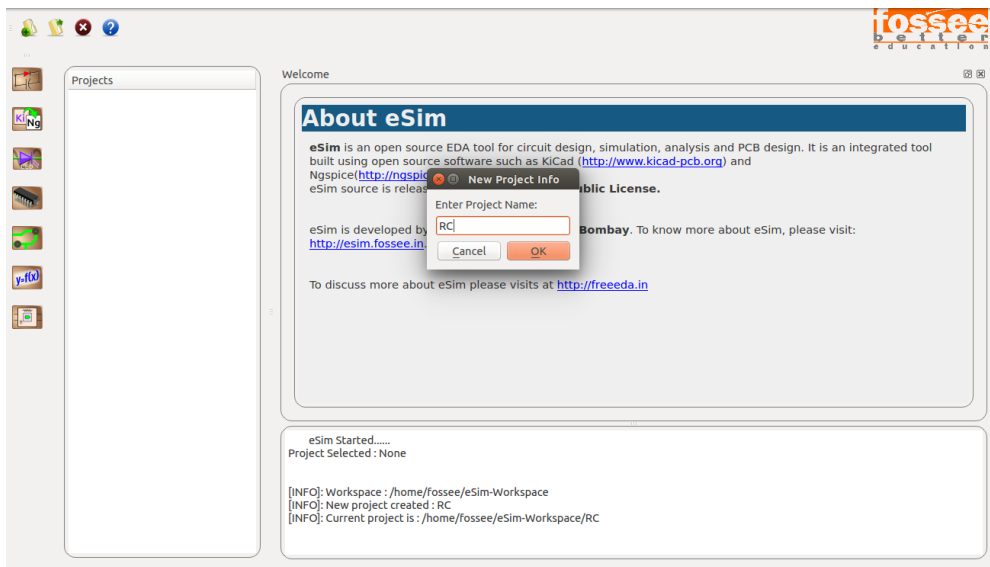

Figure 9.1: Creating New Project
- Creating a Project: The new project is created by clicking the **New** icon on the menubar. The name of the project is given in the pop up window as shown in Fig. 9.1.
The new project is created by clicking the New icon on the menubar. The name of the project is given in the window shown in Fig. 9.1.
The new project is created by clicking the New icon on the menubar. The name of the project is given as shown in the Fig. 9.1.